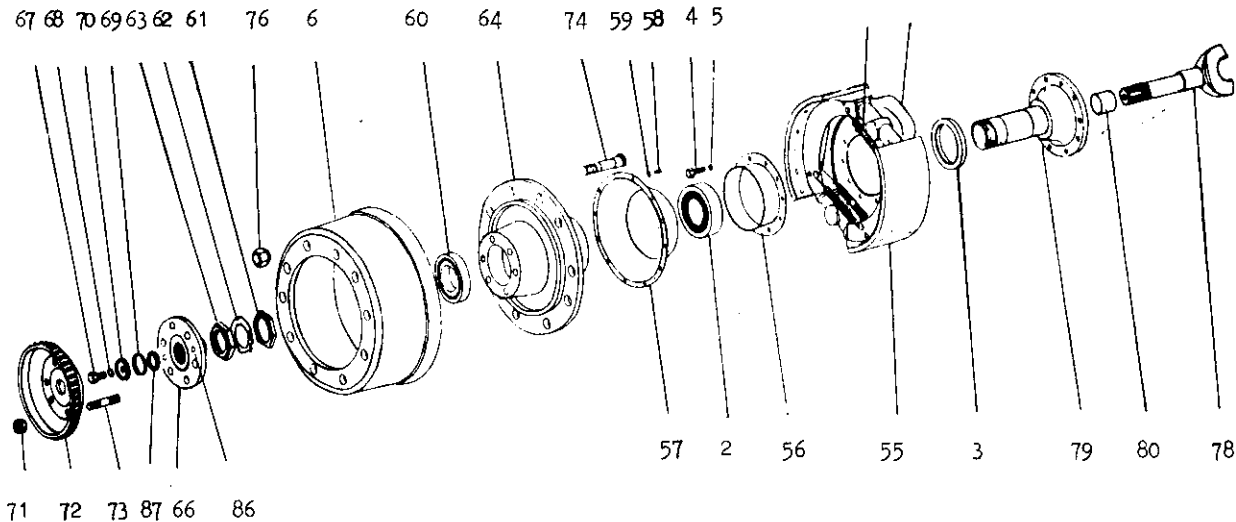

FIG 9 - FRONT RIGHT HUB ASSEMBLY (EXPLODED)
- c. The centre tap screw (item 67, fig 9) can be removed from the end face of the driving flange (item 66, fig 9) to come free with "O" ring, retainer and cork seal, located in the centre of the flange. The driving flange, however, may still be quite firm in position, in which case the centre capscrew can be used as a puller in the extractor holes (item 86, fig 9) tapped through the driving flange for that purpose.
- d. The wheel bearing outer adjusting nut is now exposed. The locking tab on one side of the hexagon must be bent away from the flat and the nut can be unscrewed using the special wheel bearing tube spanner supplied. The nut locking washer is now removed, following which the inner adjusting nut can be unscrewed and the outer wheel bearing cone removed (items 60 to 63, figs 9, 10).